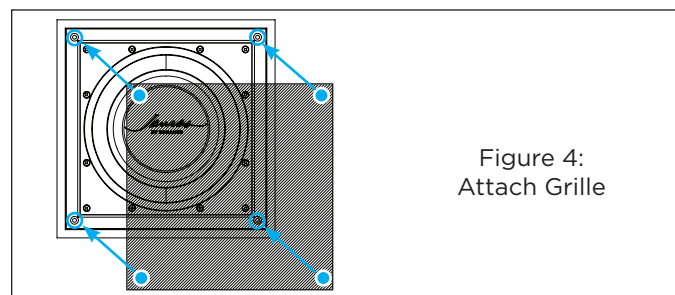

Figure 4:
9. Reattach the grille by pressing each node along the corners and edges into place until fully seated (see Figure 4).